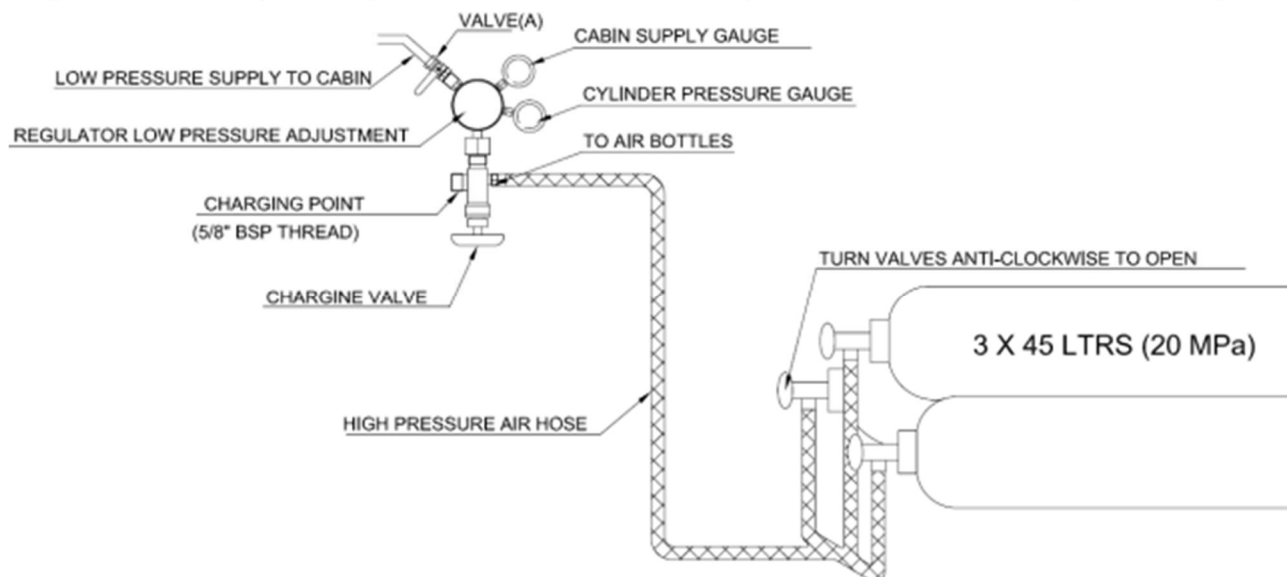

Figure 1 Emergency Air System
7.6.1 Helmsman is to inform crewmember to open valve on each air cylinder, **figure. 1**
The emergency air supply system is designed to supply the interior of the lifeboat with air for the passengers and engine. **(figure.1)**. The system consists of the following components: